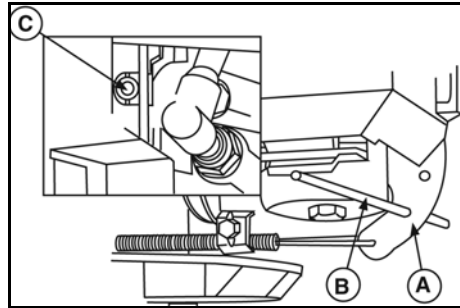

Figure 30
1. Place throttle (A, Figure 30 and 31) in FAST position and insert a 1/8" (3.2 mm) rod (B) through holes in carburetor control bracket and lever.